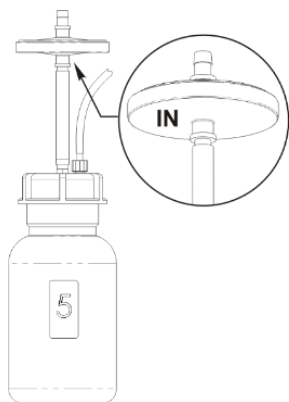

Figure 16. Filter mount
9.3 Filter replacement (figure 16).
Caution! Maintain the mounting of the filter according to figure 16. The **IN** marking should be located on the side of the inlet tube (facing the bottle).